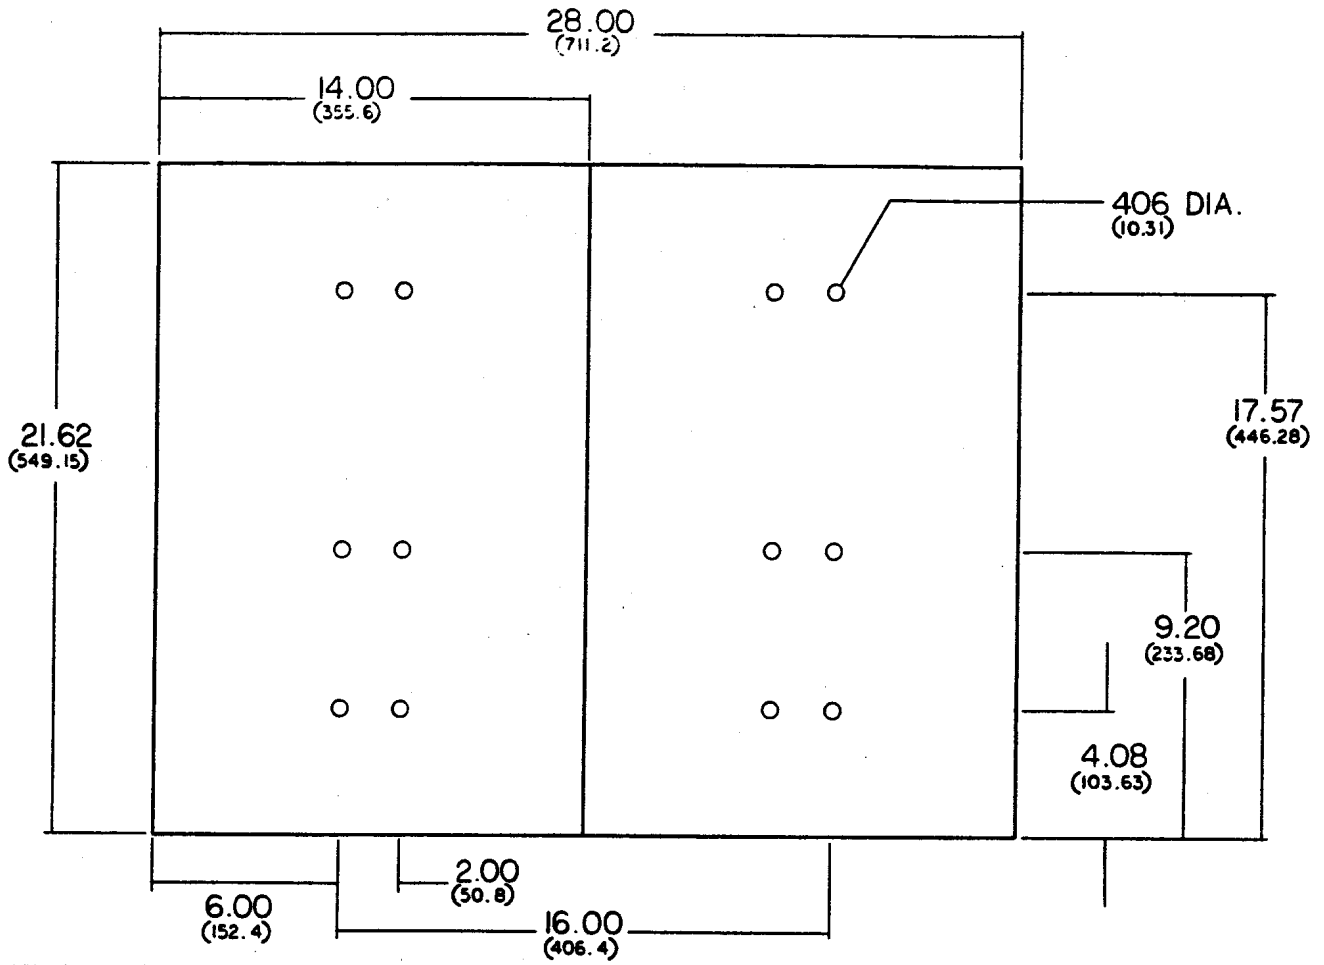

FIGURE 1 - MOUNTING DIMENSIONS
- Using the dimensions shown in Figure 1 mark location of one row of 3 mounting holes on wall over stud.
- Using the dimensions shown in Figure 1 mark location of one row of 3 mounting holes on wall over each stud.
- Using the dimensions shown in Figure 1 mark the wall with the locations of two horizontal mounting channels.